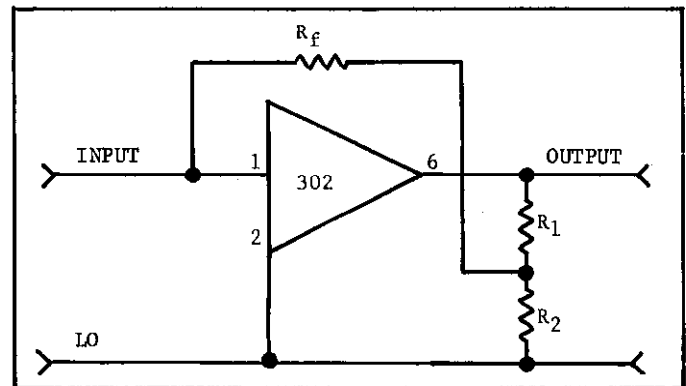

FIGURE 5. Linear Amplifier With Fractional Feedback.
b. Linear Current Amplifier With Fractional Feedback. In this configuration, the feedback resistor  $R_f$  is connected between the Input (Pin 1) and a divider composed of  $R_1$  and  $R_2$  as shown in Figure 5. The value of  $R_1$  and  $R_2$  should be selected such that  $R_1 + R_2$  is .01 times the value of  $R_f$  (that is, the divider current should be large compared to the current to be measured). Since the output current must be limited to 5 milliamperes or less, the output load  $R_L$  (in parallel with  $R_1 + R_2$ ) should be  $2k\Omega$  or greater.